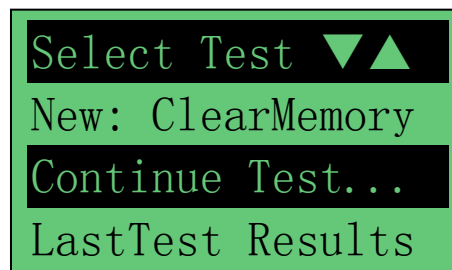

Figure 29
2. It will run through a self-test and when completed it displays the Main Menu as shown: (Fig. 29)